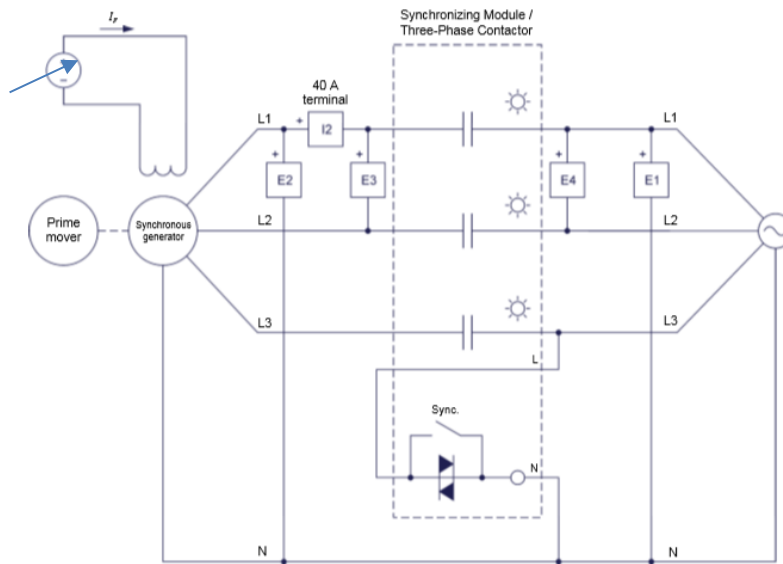

Fig. 4: Generator-power system synchronization.
- a) Connect the equipment as shown in Figure 4 below. This circuit represents a synchronous generator connected to an ac power network through a circuit breaker (three-phase contactor).
- c) On the Synchronizing Module/Three-Phase Contactor, make sure that **the Lamps switch is set to the (I) position**. This ensures that the synchronizing lamps on the module are operational. Also **make sure that the Sync. switch is set to the open (O) position**. This ensures that the synchronous generator is not connected to the ac power network.
- h) In the Four-Quadrant Dynamometer/Power Supply window, increase the Speed parameter of the prime mover slowly while watching the flashing rate of the lamps until the generator speed reaches 1800 rpm. Then adjust the generator field current until $E1 \approx E2$. Make further necessary adjustments till the lamps become all dark. Observe the waveforms of these voltages on the Oscilloscope, and when these two voltages are equal in amplitude and in phase (that is when the lamps go 100% dark) take a snapshot, then **it is time to set the Sync. switch on the Synchronizing Module/Three-Phase Contactor to the closed (I) position to synchronize the generator to the network**. Then note the active and reactive power supplied by phase 1 of the generator.